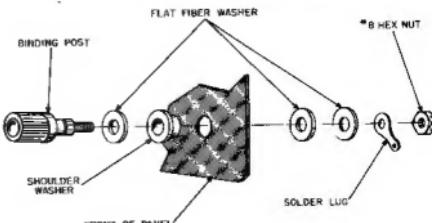

FIGURE 4. HOW TO MOUNT A BINDING POST
- (X) Mount the three binding posts in the three holes at the bottom of the front panel. Position the binding post holes up and down. The red binding post (J-2) must be in the center hole. The black binding posts (J-1 and J-3) must be on either side of J-2. Figure 4 shows how to mount a binding post using a shouldered (extruded) fiber washer, three flat fiber washers, a solder lug, a solder lug, and a nut.